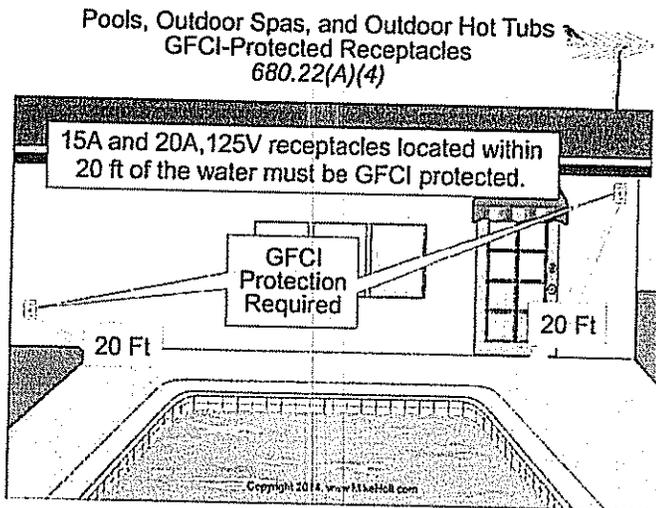

Figure 680-25
**(4) GFCI-Protected Receptacles.** 15A and 20A, 125V receptacles located within 20 ft from the inside walls of a permanently installed pool, outdoor spa, or outdoor hot tub must be GFCI protected. Figure 680-25